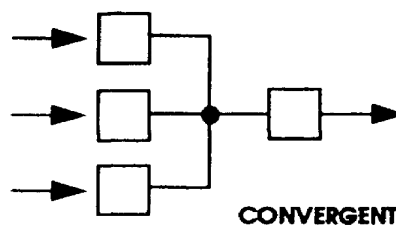

Figure 1-5.
11. Figure 1-5, below, shows a basic CONVERGENT type of signal flow path. A convergent signal path exists when there is more than one input to a stage (block). Some types of convergent stages require all the inputs before there is an output, while other types require only one input to produce an output. If there is no output from a convergent stage, each or every input must be checked.